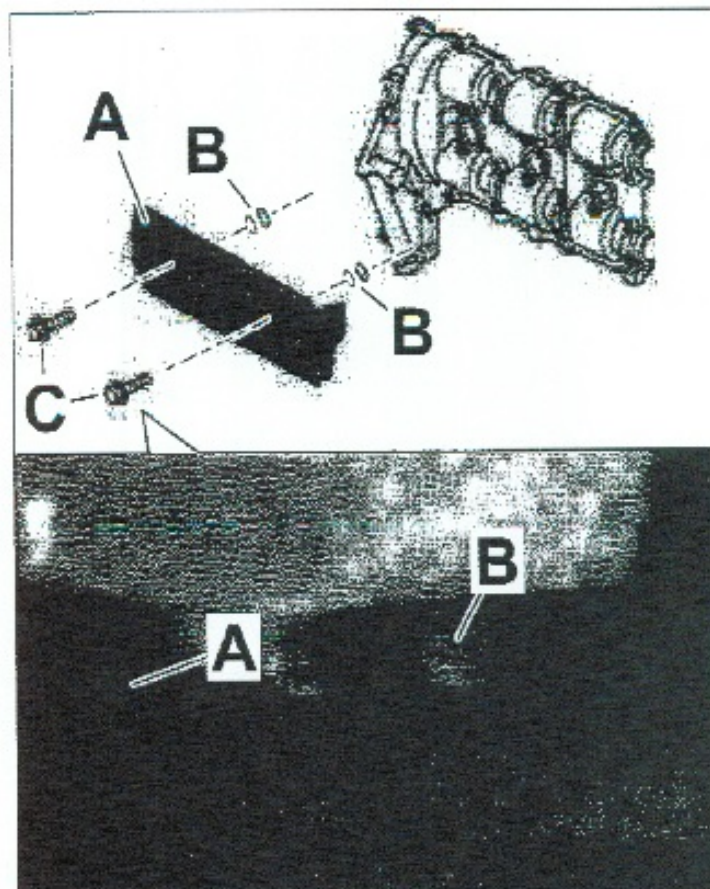

Figure 2
- 2 **When fitting the two heat shields** (already used; ⇒ *Figure 2-item A-*):
- two new, **longer screws** (Part No. 900.075.333.01, M6 x 25; ⇒ *Figure 2-item C-*) must be used.
- A **washer** (Part No. 999.025.220.30, **5 mm thick**; ⇒ *Figure 2-item B-*) must be used for each screw **and**
- a **washer** (Part No. 999.025.193.30, **3 mm thick**; ⇒ *Figure 2-item B-*) must also be used.
The two new washers (5 mm and 3 mm) must be fitted together between the heat shield and cylinder head ⇒ *Figure 2-item B-*) and will ensure a sufficient distance between the ignition coil and heat shield.